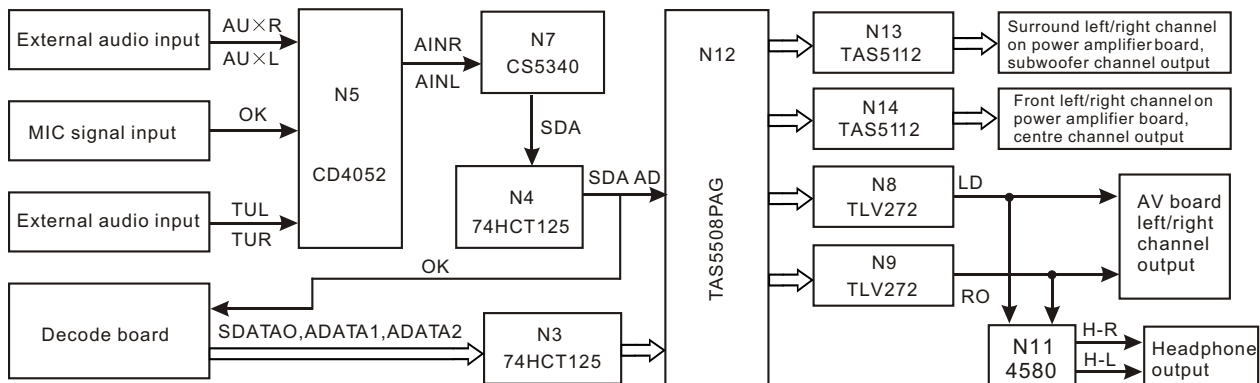

Figure 3.2.9.1 Audio power amplifying circuit block diagram
1. Audio power amplifying circuit block diagram is shown as the following figure 3.2.9.1: